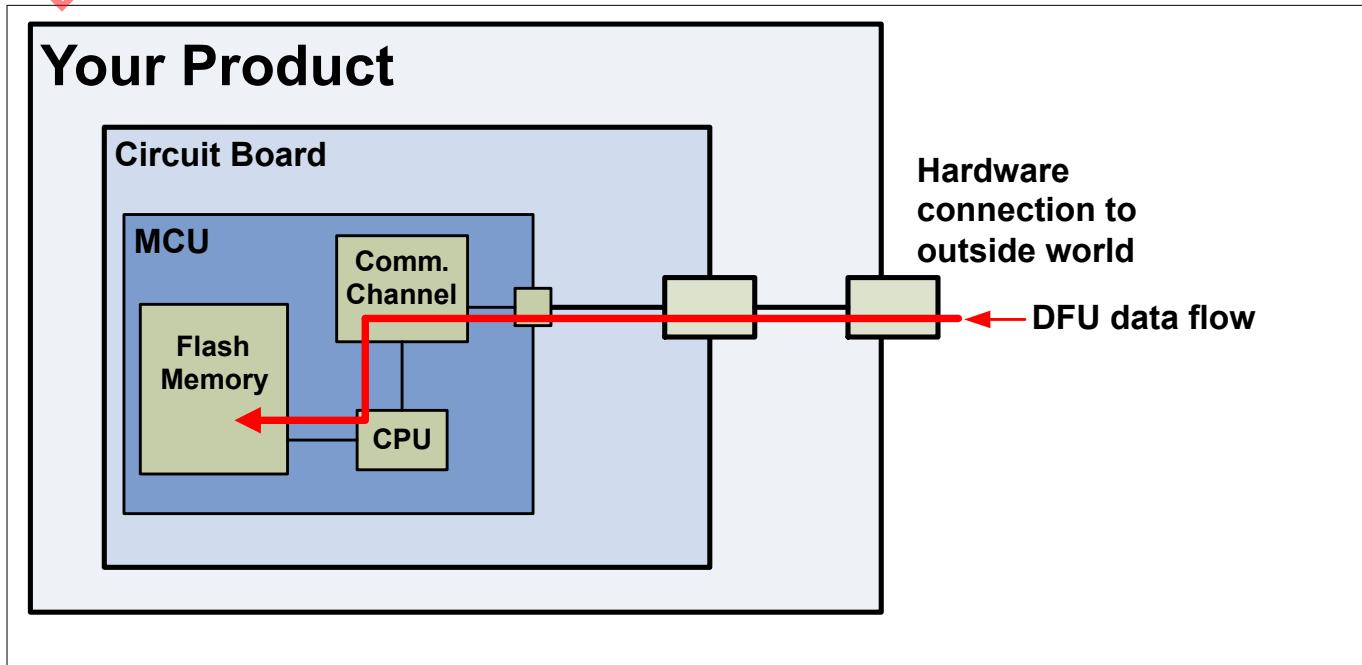
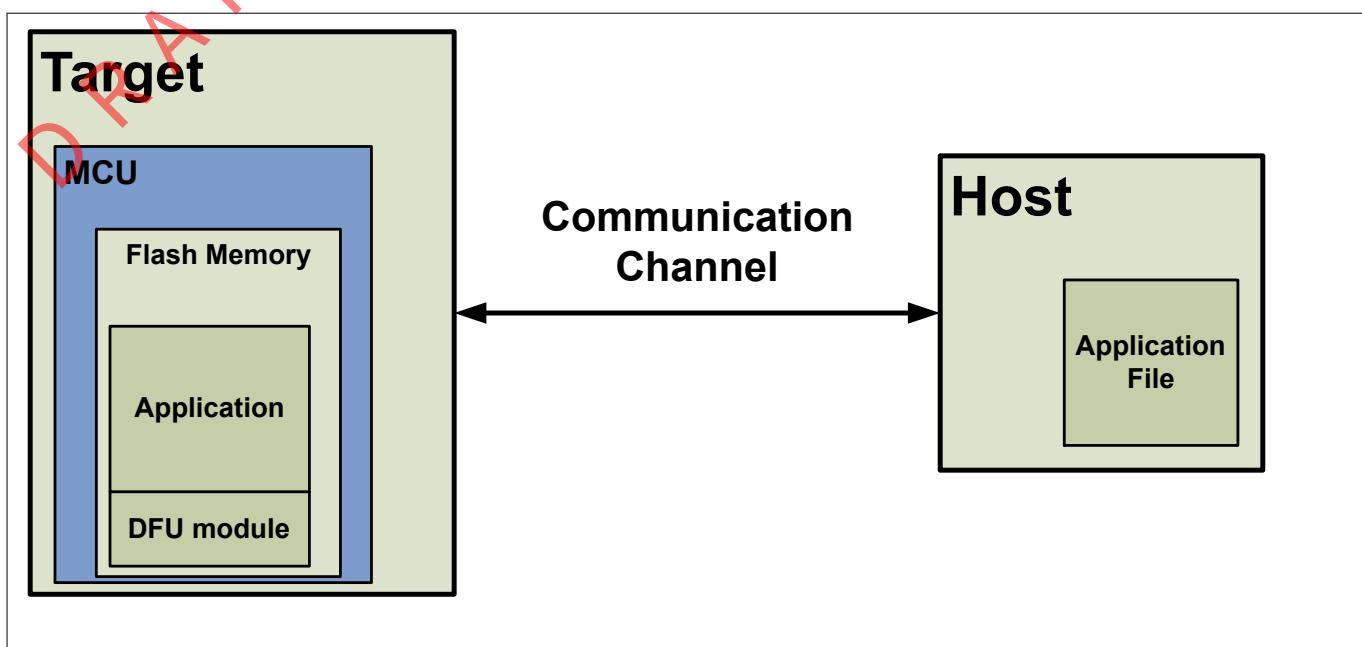

Figure 564 DFU data flow block diagram
Figure 565 Generic DFU system
Device firmware update (DFU) is a common part of MCU system design. DFU makes updating a product's firmware in the field possible. In a typical product, firmware is stored in an MCU's flash memory. The MCU is mounted on a printed circuit board (PCB) and embedded in a product, as Figure 564 shows.
Figure 564 implies that the product's embedded firmware must be able to use the communication port for two different purposes: normal operation and updating flash. The portion of the embedded firmware that knows how to update the flash is called a **DFU module**, or **bootloader**, as Figure 565 shows.
- Device Firmware Update Host Tool: dfuhtool.exe in the folder ... \ ModusToolbox_1.0 \ tools \ dfuhtool1.0. This is an example of the “host” shown in Figure 565. For more information, see Appendix A.